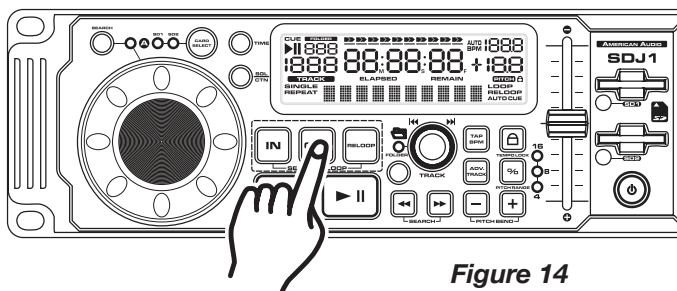

Figure 14
- 3) Press the *OUT BUTTON* (12) to set the ending point for your SEAMLESS LOOP (Figure 14). The *IN BUTTON* (12) and *OUT BUTTON* (12) LEDs will immediately begin to flash rapidly indicating the SEAMLESS LOOP mode has been activated.